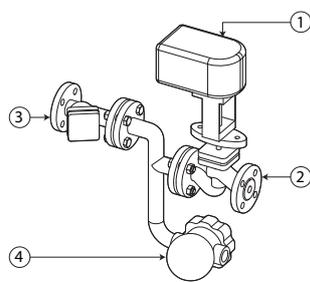

Fig. 4.b
- For threaded control valves, SAKV*****U*, with an optional fitting kit, SAKR*****U*, attach the fittings to the valve as shown in figure 4.a.